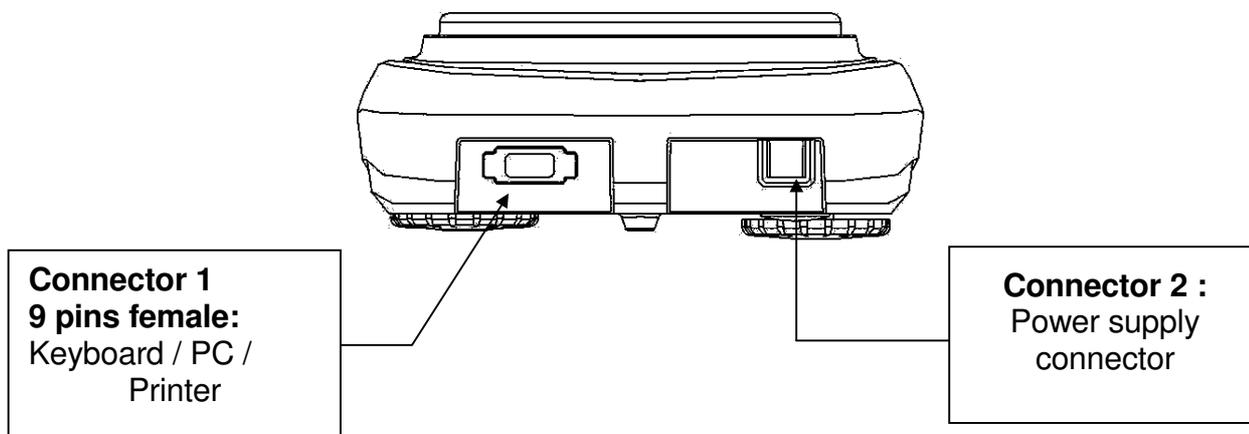

Fig. 1 Rear side of the balance
Selecting the transmission to PC (personal computer IBM compatible), it is achieved a continuous transmission output, at the same rate of weight update on display of the balance. It is possible to perform all the functions of the balances directly from the computer keyboard, transmitting to the balance the ASCII codes as in the table below. The connector to use for connection to PC is the number 1 (fig.1 pag. 51).
3. Selecting the transmission to PC at user command, it is achieved a transmission output only when the **PRINT** button is pressed, also in this case it is possible to perform all the functions of the balance directly from the keyboard of the computer, sending to the balance the ASCII codes in the table above. The connector to use for connection to PC is the number 1 (fig.1 pag. 51).
To receive/transmit data, connect the connector 1 (fig.1 pag. 38) of the balance to the serial port of the PC as shown below:
The connector to be used for the connection is the number 1 (fig.1 pag.46)